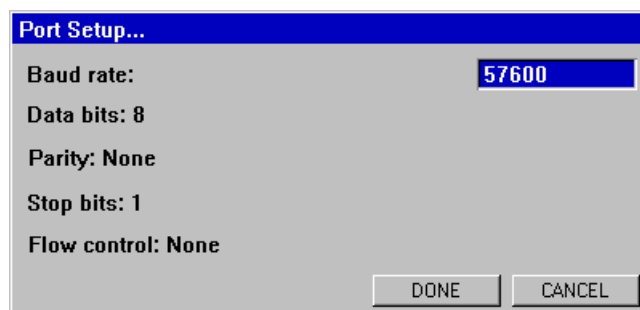

Figure 32: Port Setup Menu
- 10 Press the rotary knob to open the Port Setup menu (see Figure 32 below).